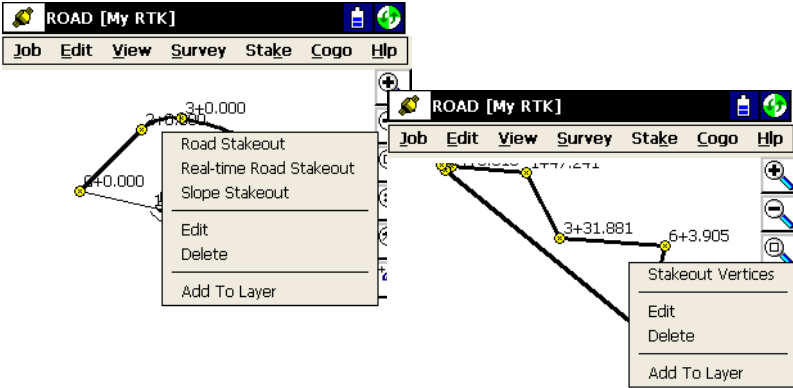

Figure 4-2. Main Map
- Access to the stakeout from the Main Map. Select the object to be staked, press **Alt** on the controller's keyboard and tap the object, or hold the stylus on the selected object for a while. A pop-up menu displays the options available for the selected object (Figure 4-2).